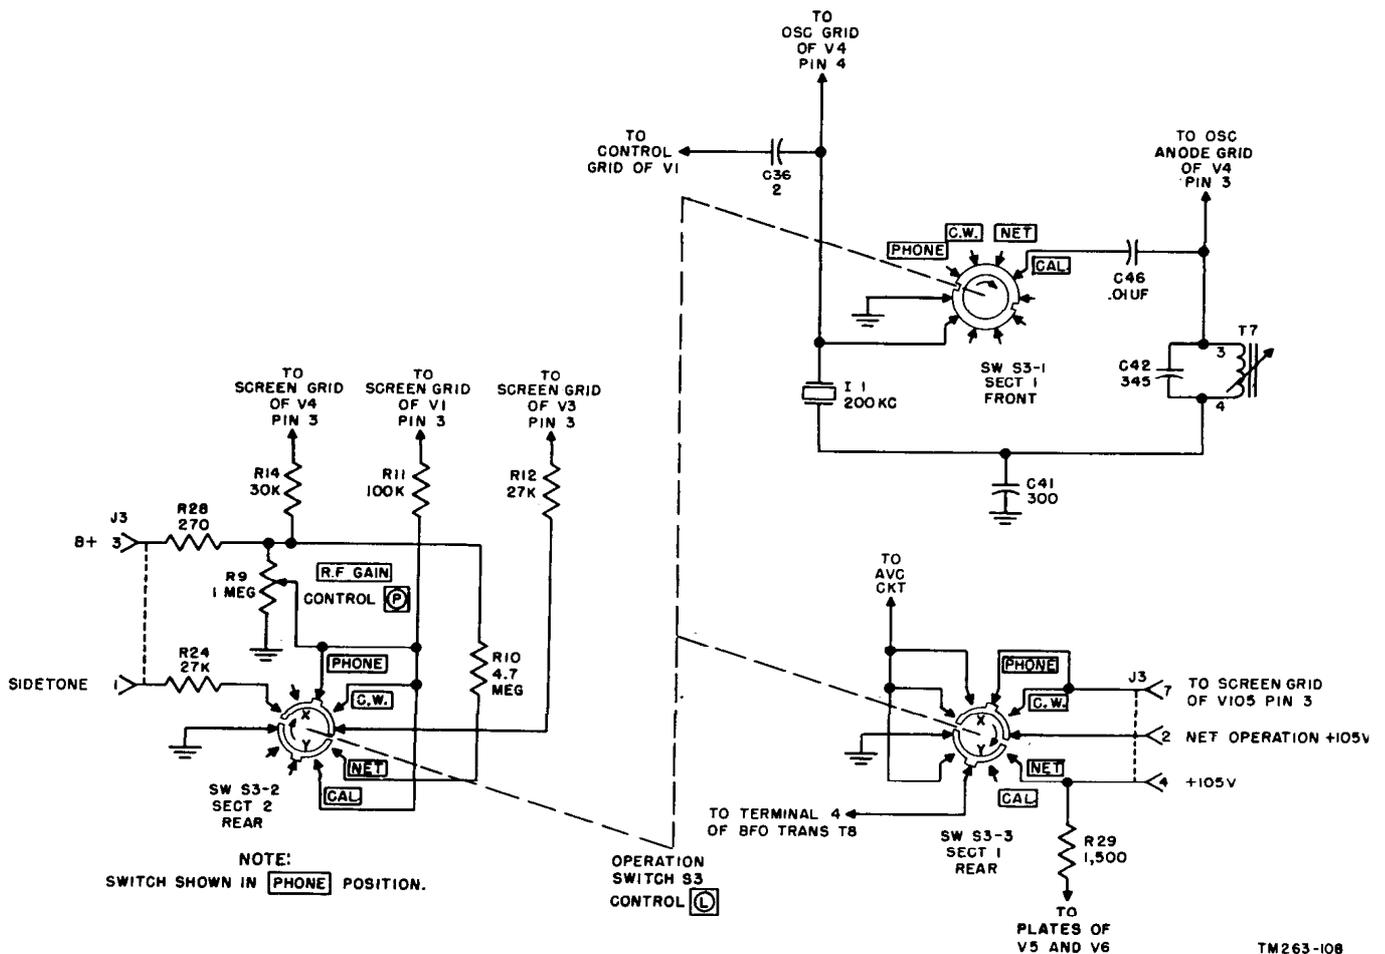

Figure 65. Operation switch S3, simplified schematic diagram.
a. Two if. amplifier stages are used: the first stage, V3, uses tube type 1L4, and the second stage, V4, uses tube type 1R5. The primaries and secondaries of if. transformers T4, T5, and T6 are shunted by capacitors C31 and C32, C37 and C38, and C44 and C45, respectively. These capacitors, combined with adjustable powdered iron cores inserted in the primary and secondary coils, tune the transformers to 456 kc. The 456-kc signal from the plate of V2 is applied to the primary of T4, appears in the secondary by induction, and is applied to the control grid, pin 6, of V3. Capacitor C35 acts as an rf bypass for the screen grid of V3. Capacitor C35 acts as an rf bypass for the screen grid of V3. Capacitor C46 is the screen grid bypass for V4 in all positions except the CAL. position of operation switch S3 (par. 95). Resistor R14 is the screen-dropping resistor for V4. The avc voltage supplies bias to V3 through the secondary of T4. Capacitor C33 is used as a filter capacitor for the avc as well as completing the rf path from the low side of the secondary of T4 to ground. Capacitor C40 is a bypass capacitor for the B+ supply line. The gain of V3 is controlled manually by potentiometer R9, R.F. GAIN, control Ⓟ, which varies the voltage supplied to the screen grid. During net operation only, the gain control is removed from the circuit and R10, a large fixed resistor (fig. 65) is substituted in its place. Refer to paragraph 95 for the description of this switching circuit.
### 95. Operation Switch S3 (fig. 65)